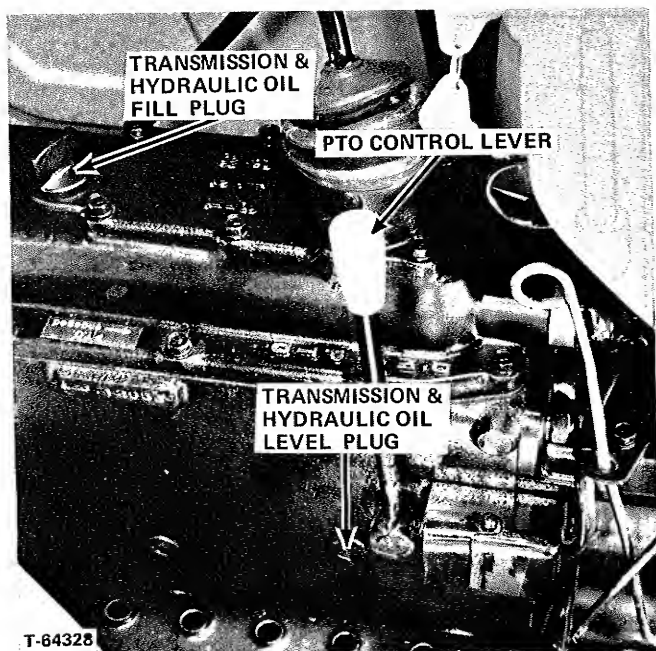

FIGURE 10 - R.H. Side
TRANSMISSION & HYDRAULIC SYSTEM OIL LEVEL (Figures 10 and 11)
There is an oil level plug on the R.H. side, at rear of P.T.O. control lever, of transmission. (Figure 10). Maintain the oil to level plug. Check oil level every 10 hours or daily when tractor engine has been stopped for at least five (5) minutes and lift arms are in lowered position.
The oil fill plug is located directly to rear of transmission shift lever (Figure 10). Fill with Allis-Chalmers Power Fluid 821.